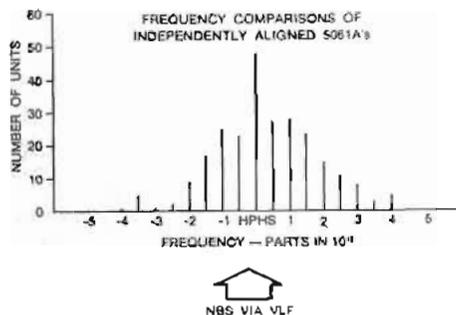

Figure 2. Frequency of independently aligned 5061A Cesium Beam Standards with standard beam tube.
**Cesium standard accuracy:** The cesium beam standard is a primary frequency standard. A cesium beam tube carefully constructed along with the required supporting electronics will, when independently aligned, put out the correct frequency within very narrow limits. The frequency spread of the output for over 250 independently aligned 5061A standards with the standard beam tube is shown in Figure 2. It can be seen from this data that the frequency perturbations in the standard beam tube are so small that all the units are within  $\pm 5 \times 10^{-12}$  of each other and of the NBS frequency. The one sigma standard deviation is  $1 \times 10^{-12}$  between units. This performance is intrinsic to the 5061A and is achieved without calibration. The absolute accuracy, intrinsic reproducibility and absence of any perceptible long-term drift or aging are important advantages of cesium standards and assure that the output frequency of a cesium standard is always within the specified accuracy.